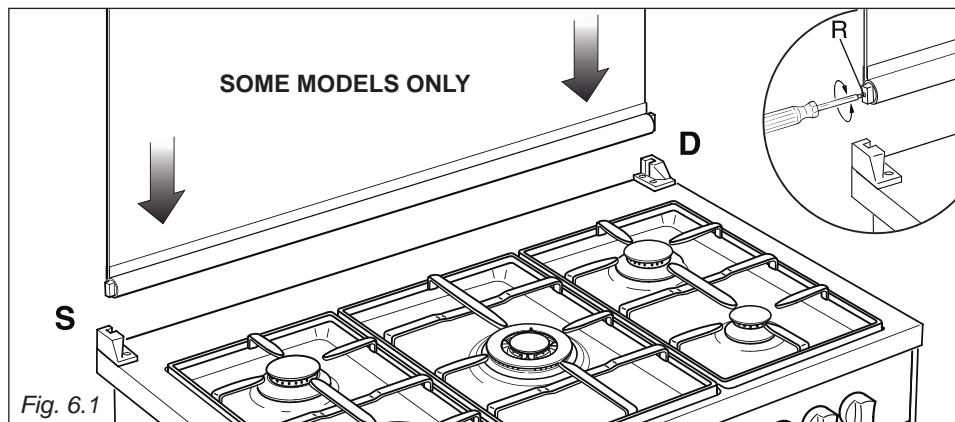

Fig. 6.1
- The right housing must receive the hinge marked “D” while the left housing must receive the hinge marked “S” (fig. 6.1).
The springs of the hinges can be adjusted if necessary by turning the screws “R” clockwise (fig. 6.1).